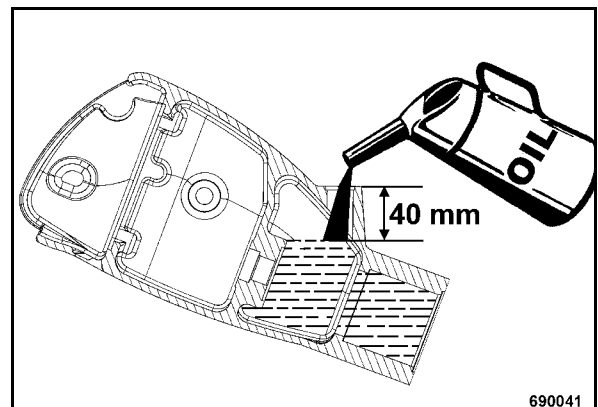

Fig. 73
- Fill in hydraulic oil to approx. 40 mm (1.6 in) below the edge of the filler opening (Fig. 73).